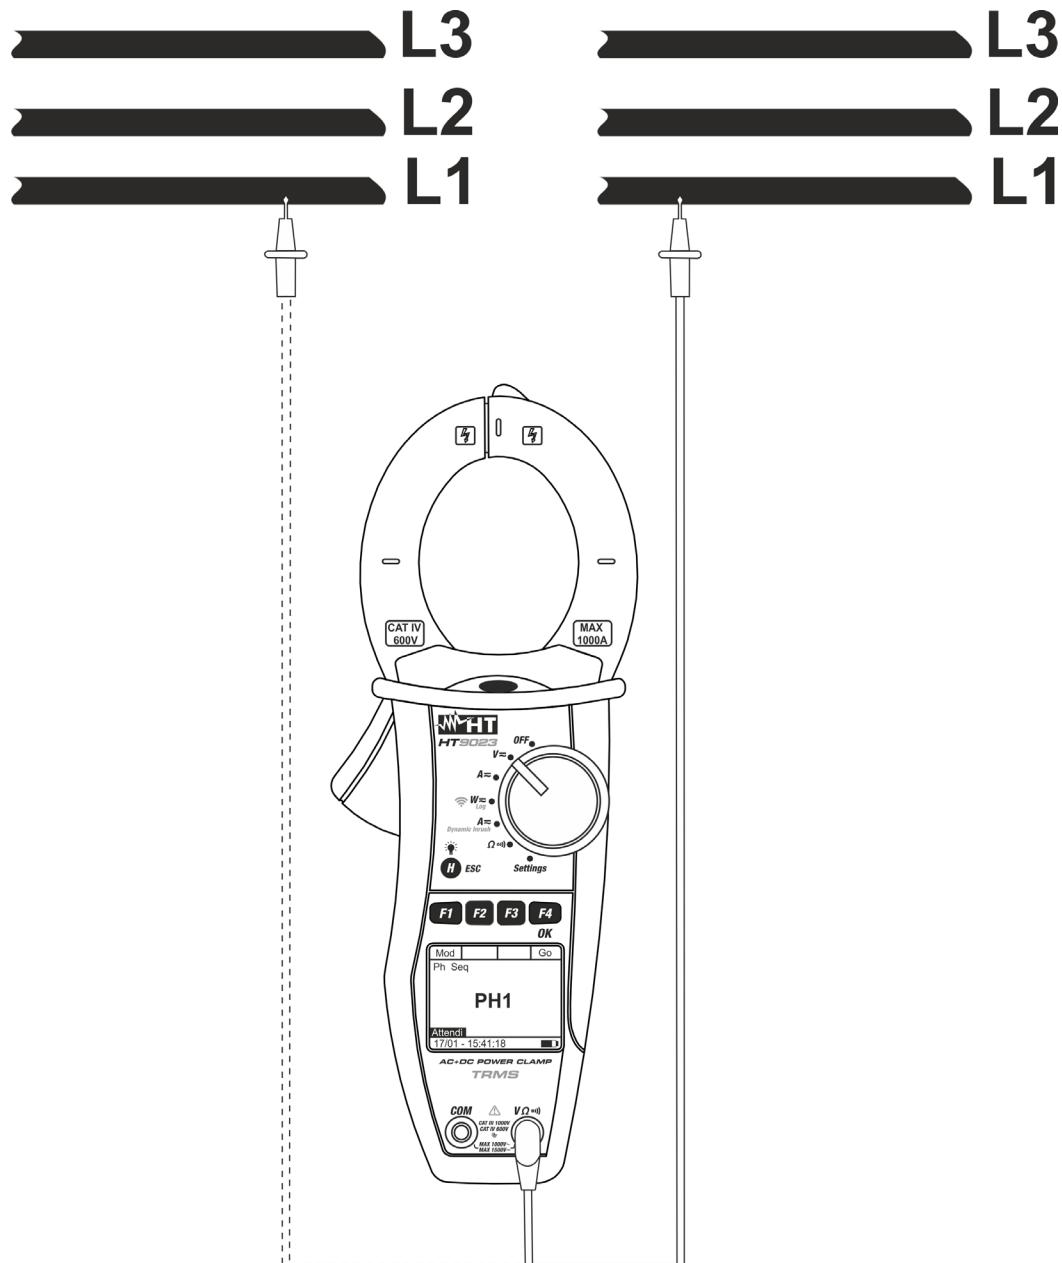

Fig. 8: Verification of phase conformity
2. Connect the red cable to the input lead **VΩ** then position the lead **on the L1 phase of the first system** of the circuit under test (see Fig. 8)
5. The message "**PH2**" is displayed and the instrument waits for the detection of L1 phase of the second system. Connect **the test lead to L1 phase of the second system** (see Fig. 8)